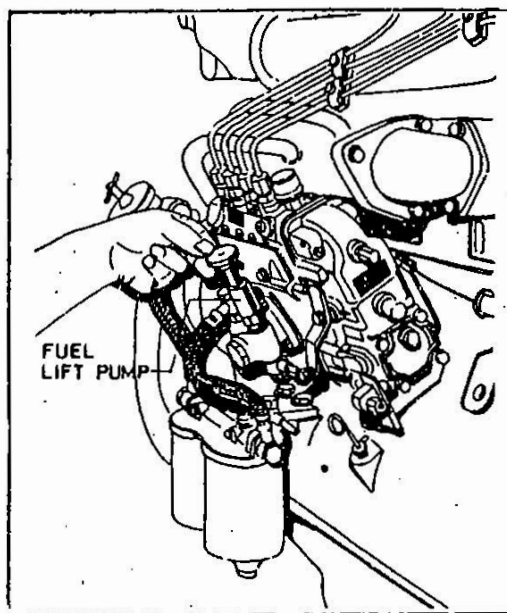

Fig.3.4
d) Rotate the knurled screw of hand primer in anticlockwise direction until manual operation of pump is possible. Operate the hand primer upward-downward till fuel oil flows out of vent screw without air bubbles (Fig.3-4).